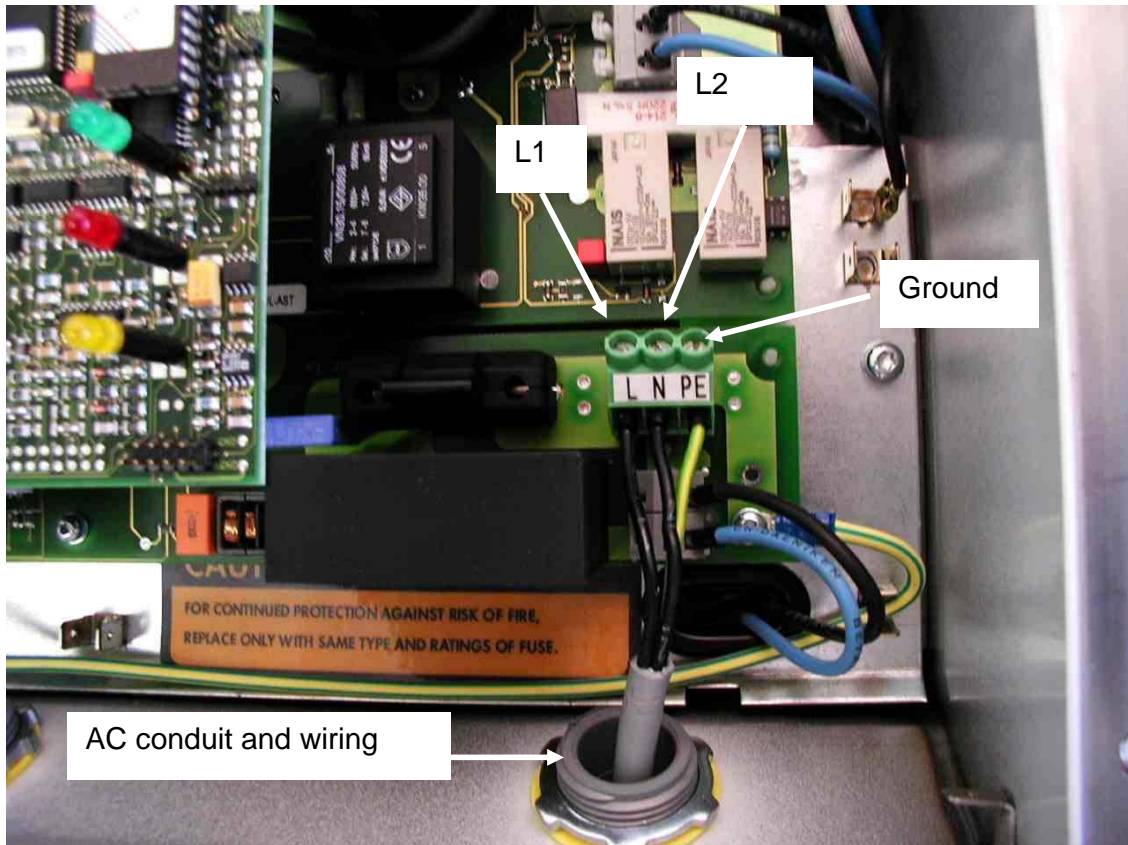

Fig. 2.8: AC Connection Terminals
- Connect the wire L1 to the terminal labeled L in the Sunny Boy (see Fig. 2.8).